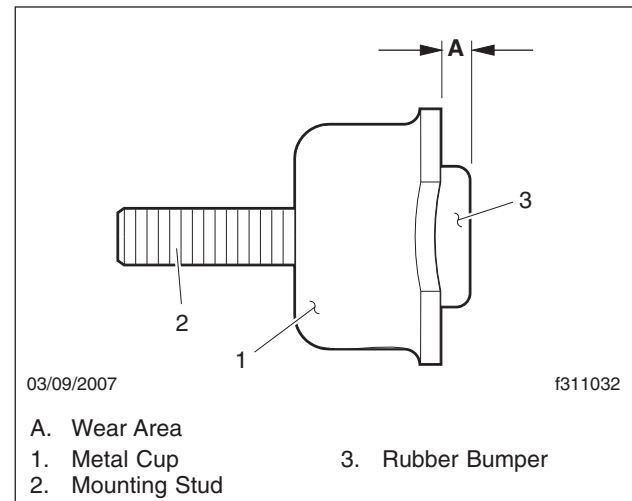
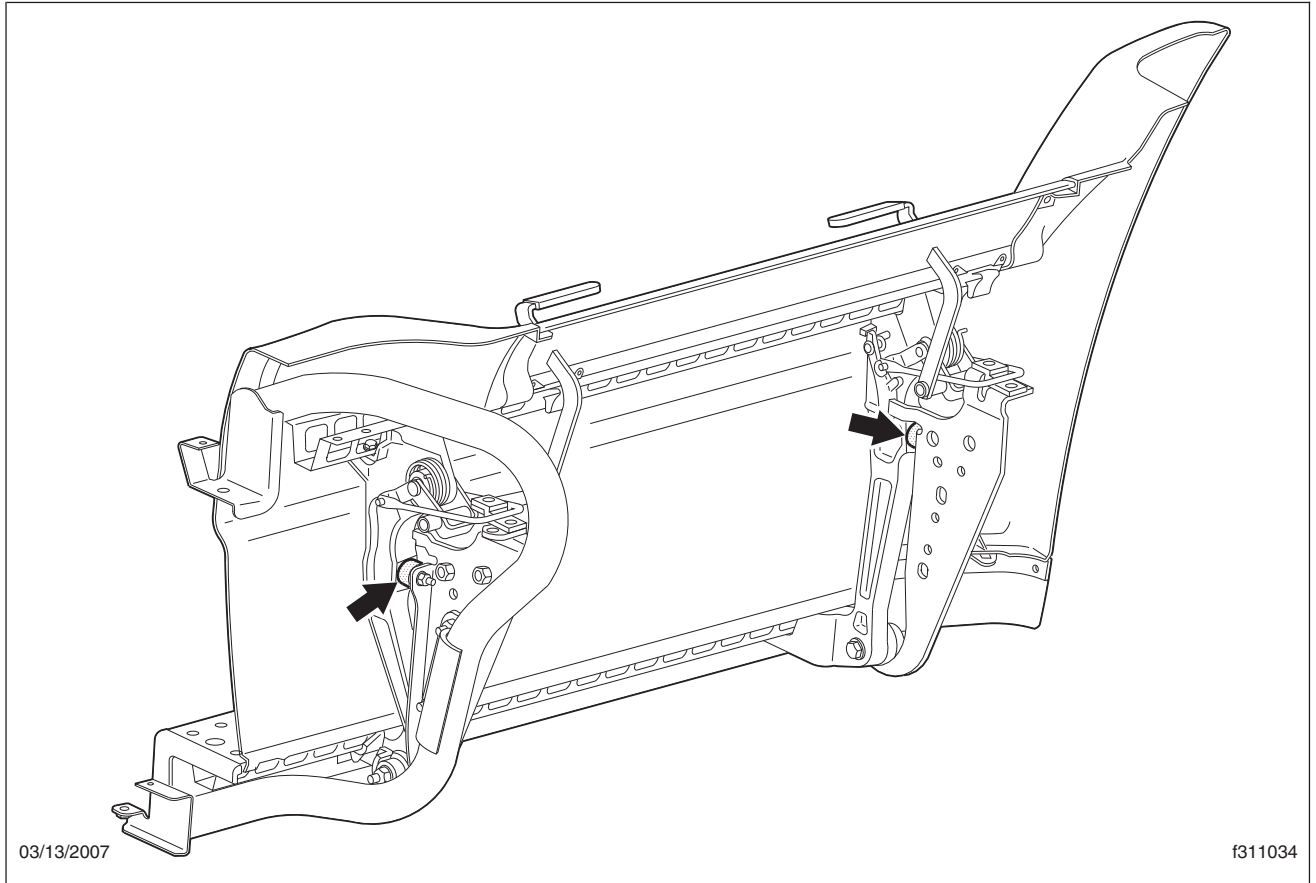

Fig. 11, Fairing Bumper
Fig. 12, Bumper Location
2. Inspect the rubber bumpers for wear. See **Fig. 11** for the bumper wear area, and **Fig. 12** for the bumper location.